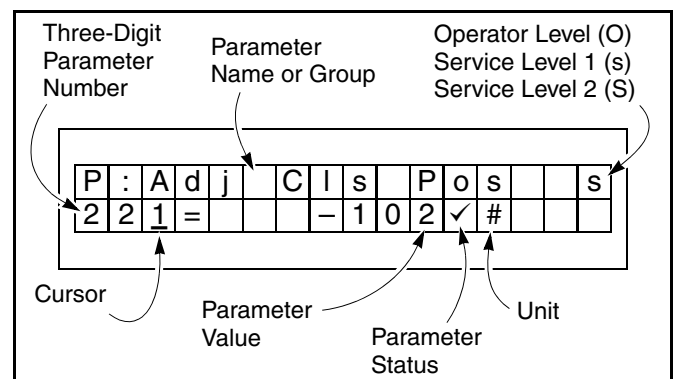

Figure 27
- Briefly press the enter (●) key to save the displayed value. The cursor will then jump over to the three-digit parameter number. (See Figure 27.)